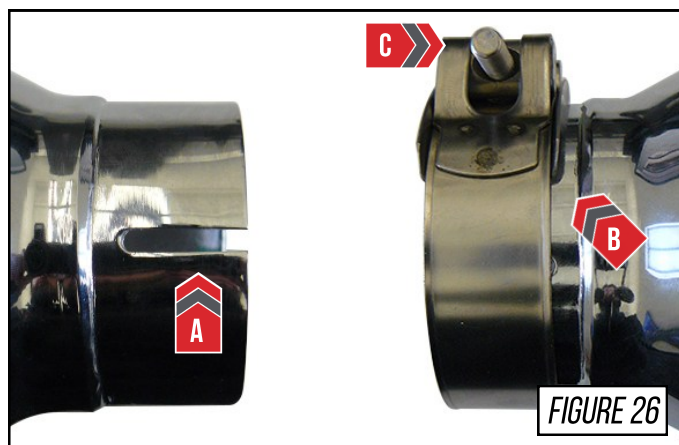

FIGURE 26
To accomplish the best tip fitment, align the 3.0" tip clamp to cover *only* the slot, as shown by **Arrow A** in **Figure 26**.
The clamp should only be covering the section of the tip that has been slotted, as shown by **Arrow B** in **Figure 26**.
- It is recommended to apply anti-seize to the threads to prevent thread binding, shown by **Arrow C** in **Figure 26**.